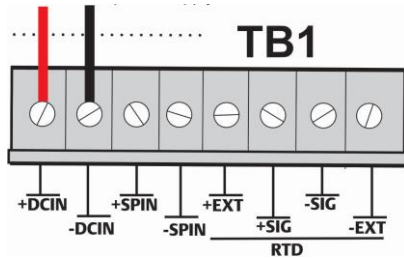

Figure 8. Wiring to DC Power Supply (with Optional I/O)
- Insert each bare wire end into its appropriate connector and secure the wire (see *Figures 8* and *9*).